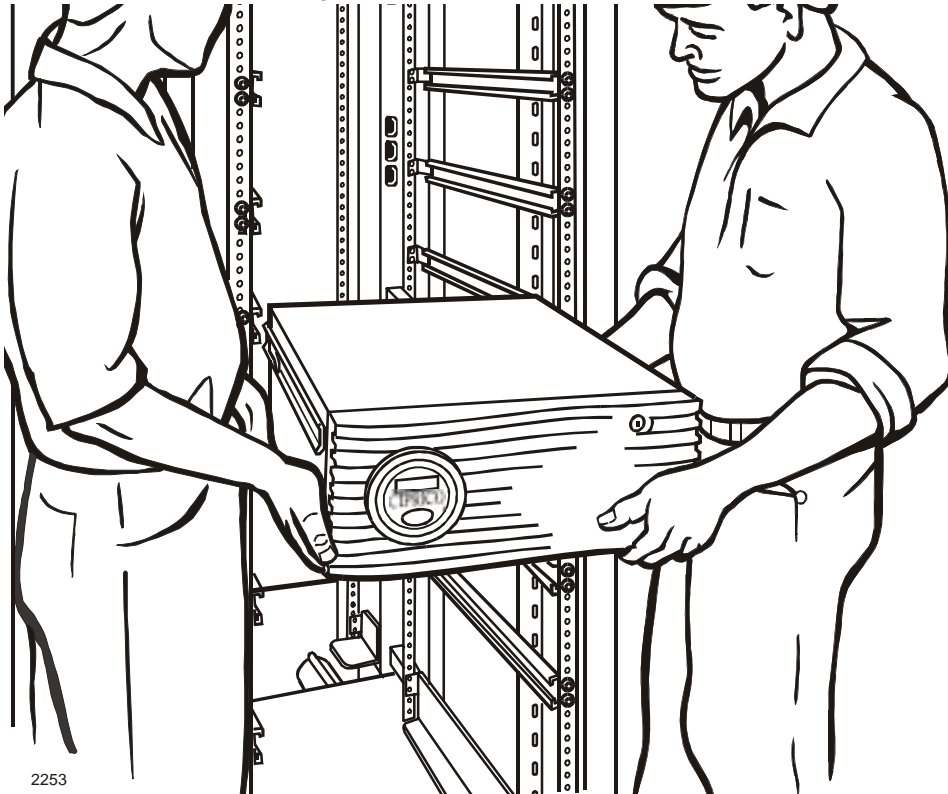

Figure 12. Lifting Disk Enclosure and Aligning Enclosure slides
1. Align the slide rails mounted on the disk enclosure with the stationary flange mounts on the rack, as shown in Figure 12.